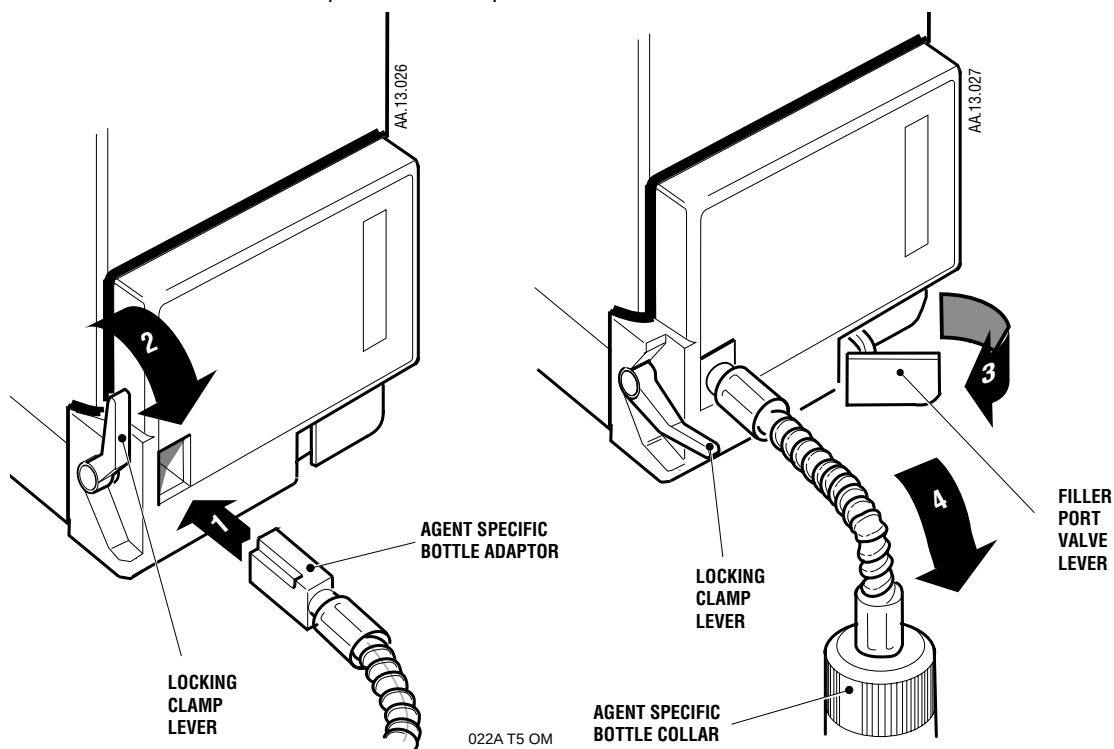

Fig. 9 Draining A Vaporizer Which Incorporates A Keyed Filler
1. Position the bottle below the level of the filler port and insert the end of the bottle adaptor into the filler port (1) as illustrated on Fig. 9.
2. Tighten the locking clamp by pulling the lever forward and downward (2) until the adaptor is clamped.
3. Open the filler port valve by pulling the lever forward to its full extent (3).
4. Hold the bottle below the level of the filler port to allow the vaporizer contents to flow into the bottle (4).